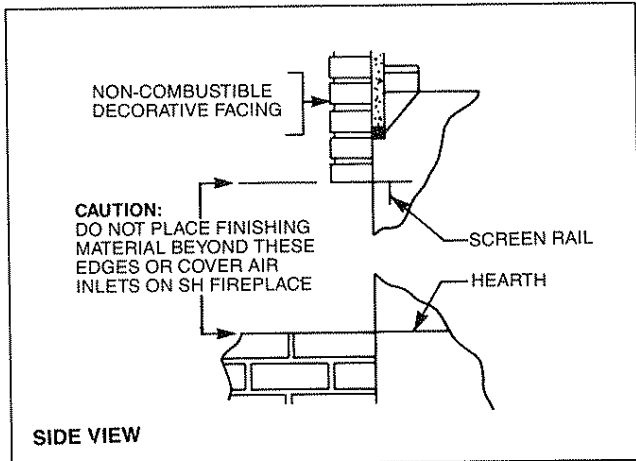

Fig. 21. Finishing front of fireplace.
**When finishing the fireplace, never obstruct or modify the air inlet/outlet grilles in any manner. (See Fig. 21.)**